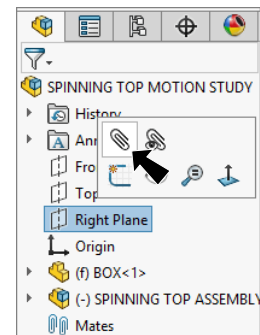

Fig. 3
Step 1. Click **Right Plane**  in the Feature Manager and click **Mate**  on the context toolbar, **Fig. 3**.